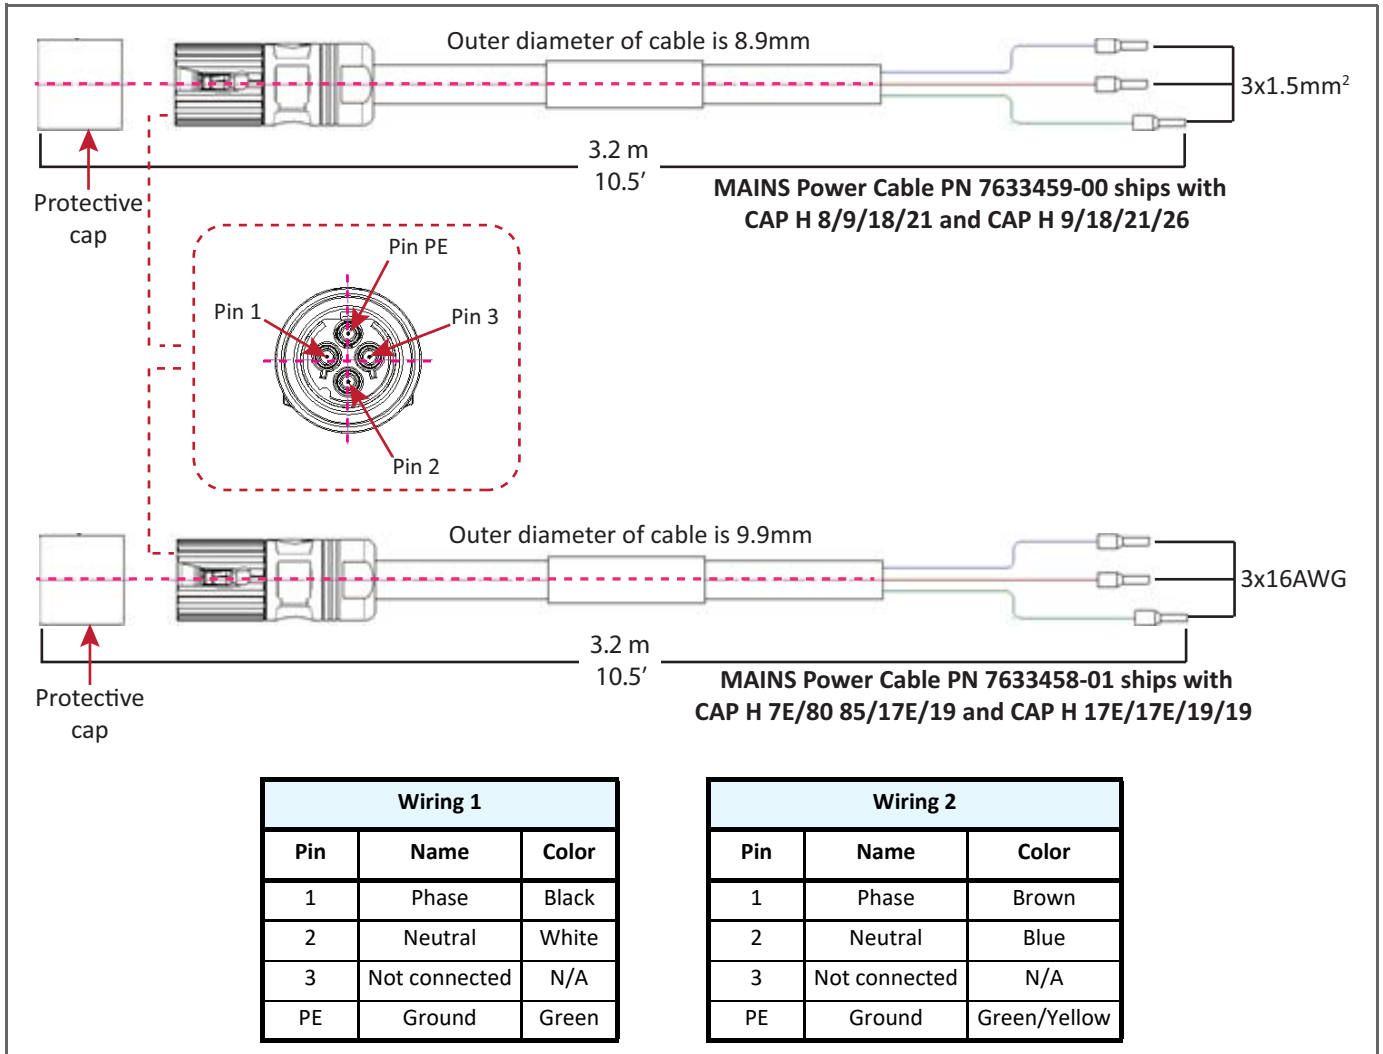

Figure 7. MAINS Power Cable
A MAINS Power cable for AC ships with each CAP H; see Figure 7. Note that there are two types of MAINS Power cables with different color coding. Make sure you are referring to the specifications for the cable with which you are working.
- 2 Locate the MAINS power cable that was delivered with the CAP H (shown in Figure 7 on page 42).
- 5 Wire the power cable to the junction box or receptacle. Refer to the color code and pin numbers shown in Figure 7 on page 42.
- 8 Unscrew the protective cover from the MAINS connector of the CAP H (see Figure 7 on page 42).